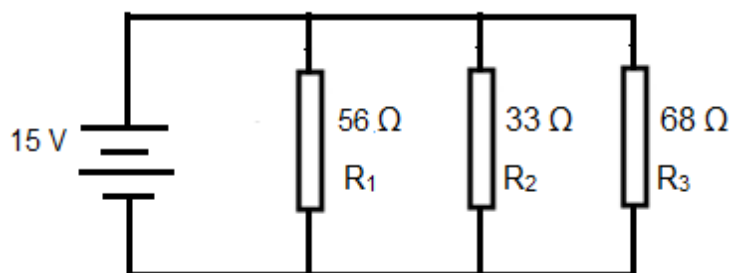

FIGURE 3.3: RESISTORS CONNECTED IN PARALLEL
- 3.8 Determine without calculation the voltage of each resistor in the circuit in Figure 3.3. (1)